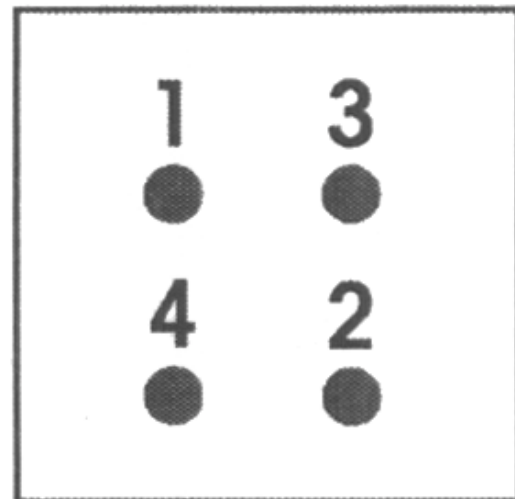

Figure 7.10
5. Tighten the U bolt locknuts evenly and tighten to the proper torque in the proper sequence. See Figure 7.10. Rap top of U bolts and retighten to proper torque. Do NOT exceed specified torque on U bolt locknuts.
3. Tighten the U bolt locknuts evenly and tighten to the proper torque in the proper sequence. See **Figure 7.10**. Rap top of U bolts and retighten to proper torque.